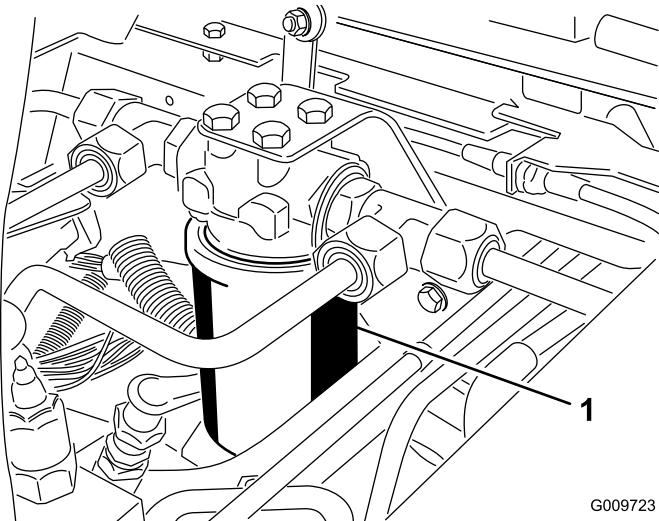
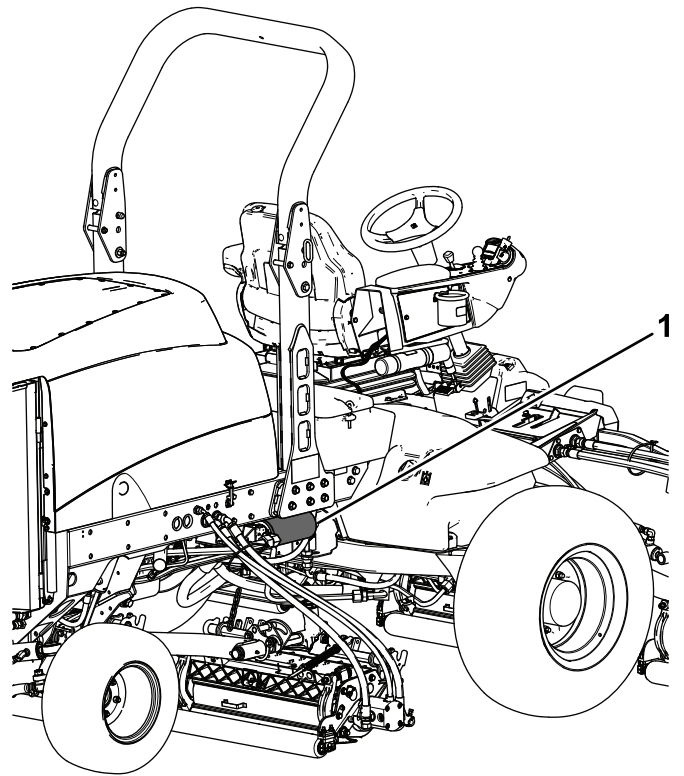

Figure 118
Figure 119
3. Place a drain pan under the filter and remove the filter (Figure 118 and Figure 119).